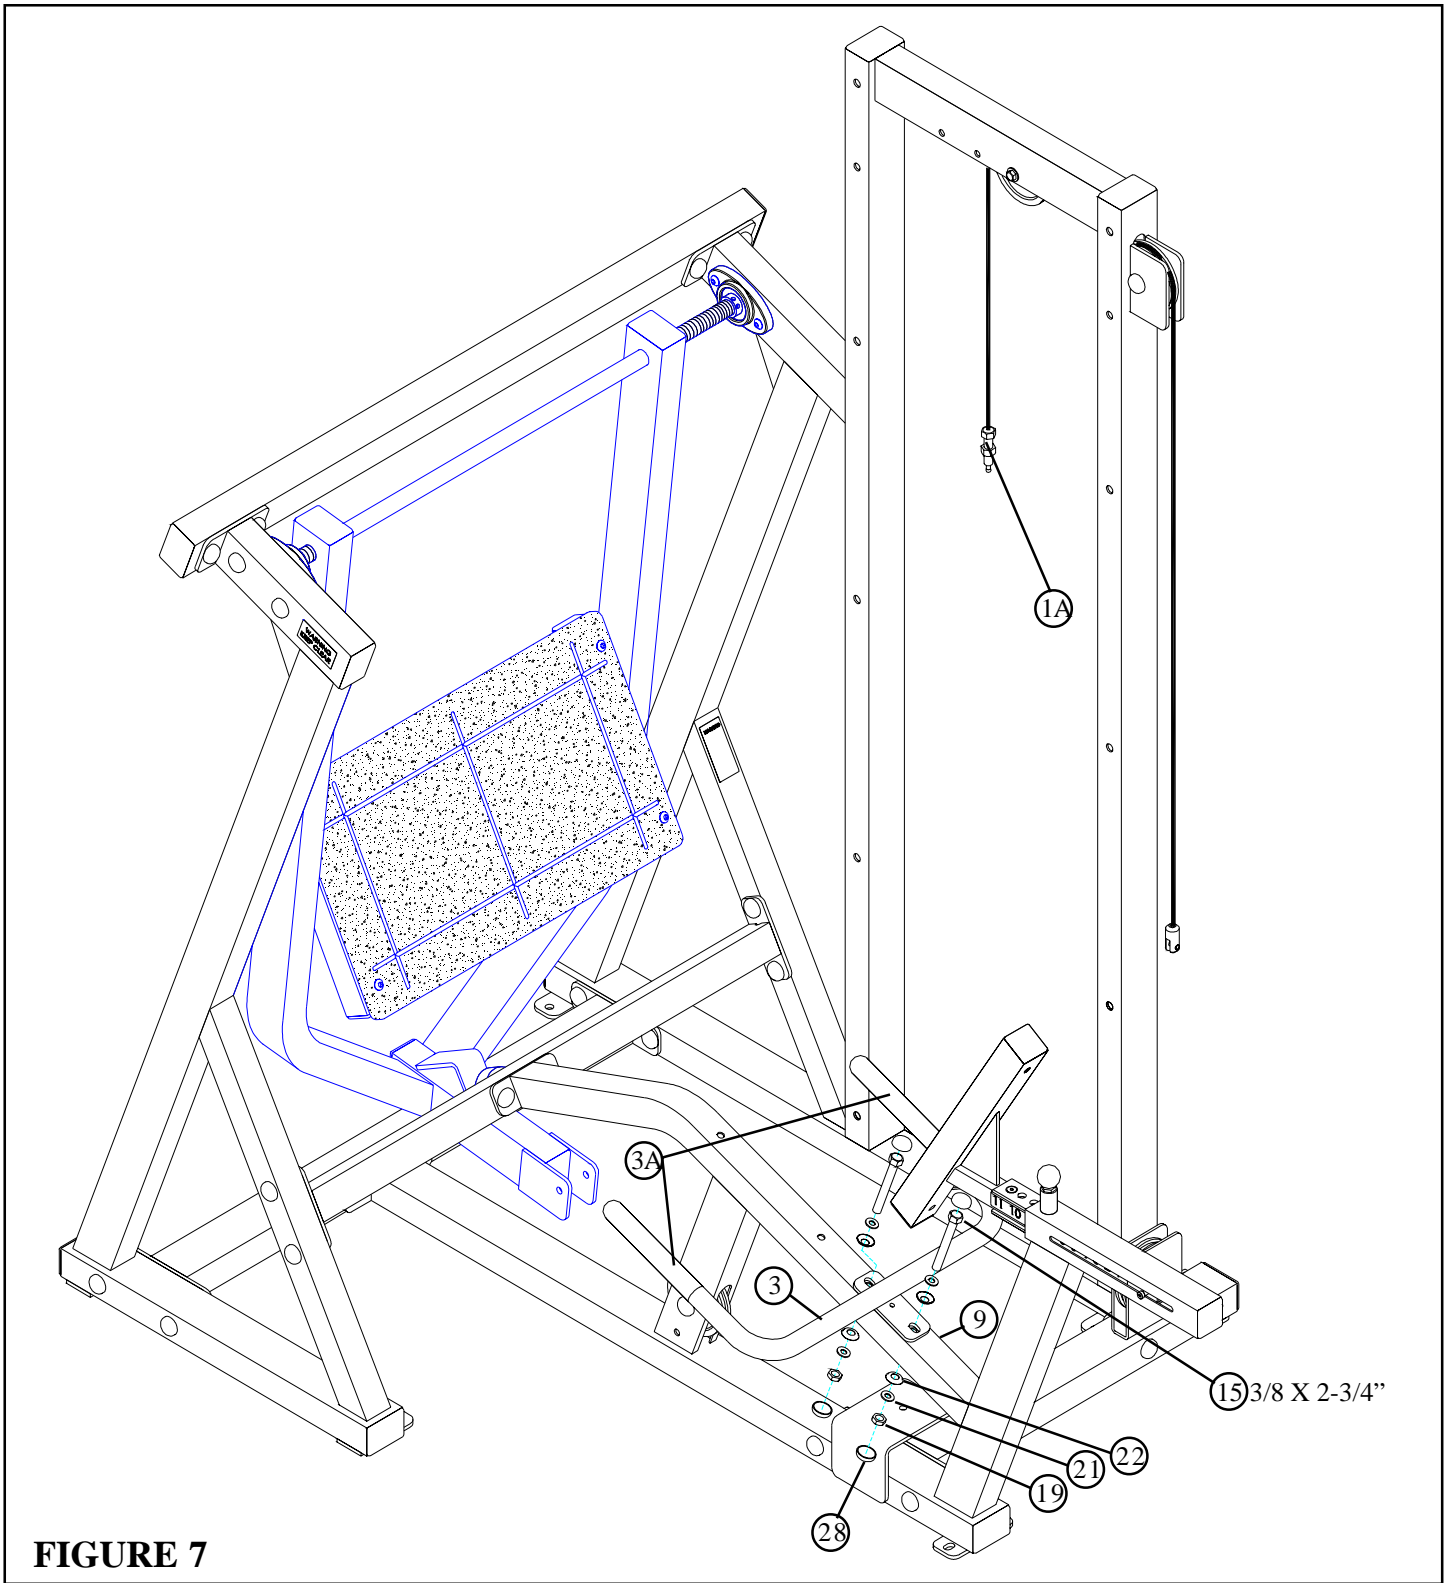

FIGURE 7
- **SECURELY** assemble the HANDLE (3) to the SEAT FRAME (9) using two 3/8 X 2-3/4" BOLTS (15), four 3/8" SAE WASHERS (21), four RH WASHERS (22), two 3/8" LOW HEIGHT LOCK NUTS (19) and four RH CAPS (28) as shown in FIGURE 7